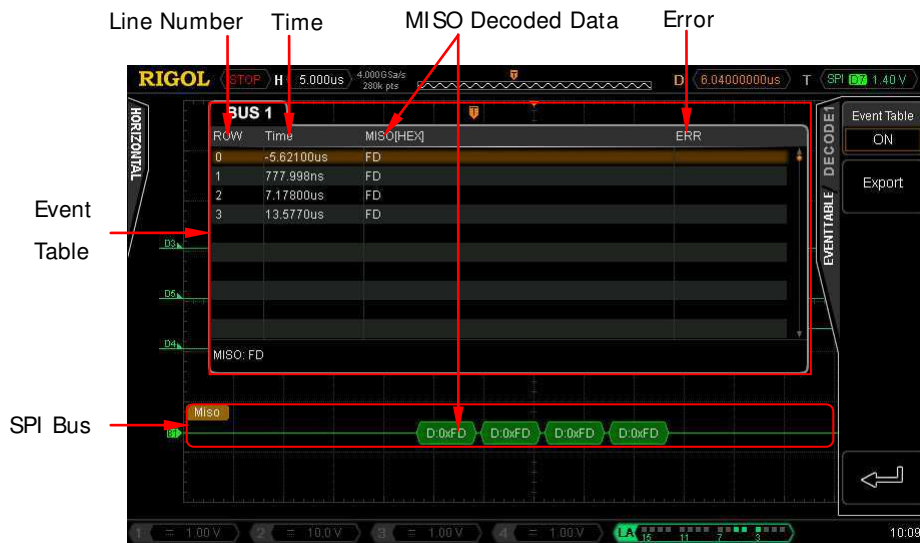

Figure 8-5 SPI Decoding
Press **BusStatus** to turn the Decode1 display on or off. You can also press **Decode1** to switch the current on/off status of the Decode1 display. When the bus display is turned on, the interface is as shown in Figure 8-5.
- 1) Press **Event Table** to turn on or off the event table. When the event table is turned on, the interface is as shown in Figure 8-5.